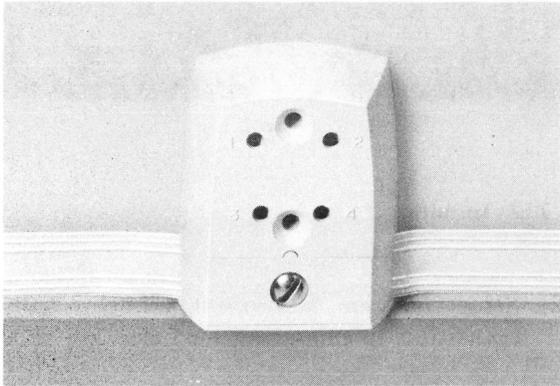

Fig. 11—No. 719 Jack
- (1) Install the jack (Fig. 11) in the same way as the No. 717 terminal.
- (2) When wire run ends in jack, do not extend the wire and fold back. Cut off wire so it does not extend beyond cover of wire channel.